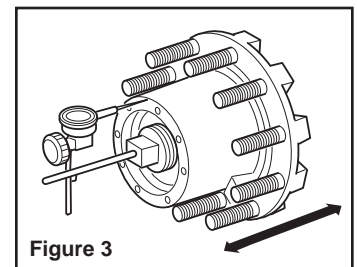

Figure 3
1. Remove the hubcap or drive axle shaft. Use an appropriate container to catch the lubricant. Attach the magnetic base of the dial indicator to the spindle. Touch the dial indicator stem to the hubcap mounting surface (see figure 3).